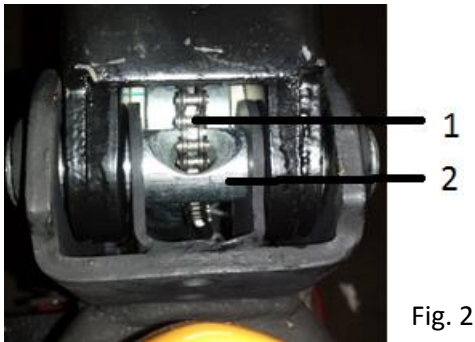
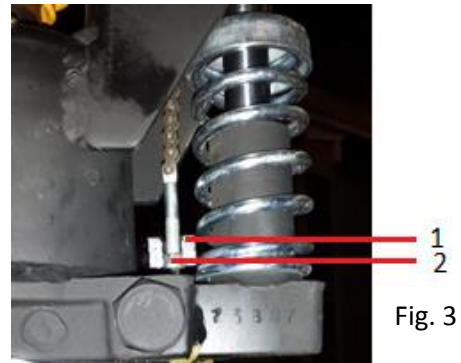

Fig. 2
Fig. 3
Step 2: Pull the lever (51) to the lifting position (lowest position).
Step 3: Use the hammer tap the spring pin (23) in on one side of the Handle Axis, put some grease on one side of the spring pin. Now drive the Handle Axis through the hole in the Handle.
Step 4: Make sure the chain (1, fig.1) runs through the hole in the Handle Axis, as shown in figure 2. In order to make this work, first drive the Handle Axis through the Handle!
Step 5: Use the hammer to tap another spring pin (23) into the axle with the hole (46). Using a 3mm Punch to finish.
Step 6: Use a screwdriver to lift up the Cam (17)(1, fig.3) and put the adjusting nut into the Cam slot, check the correct position of the chain.